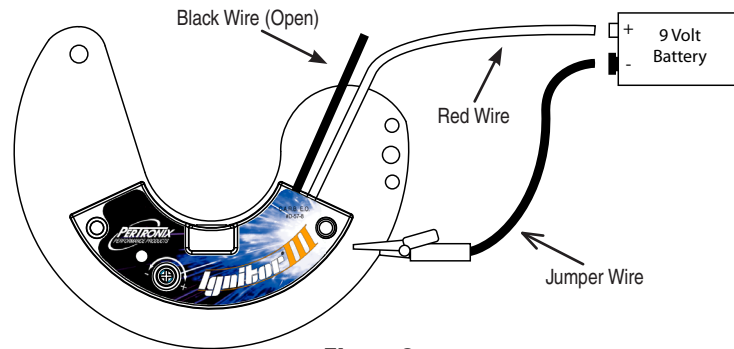

Figure 2
**NOTE:** Setting the rev limit may be done effectively and easily on a bench or table. Connect the module to a 9-volt battery as shown in figure 2. Then follow the setting procedure outlined below.